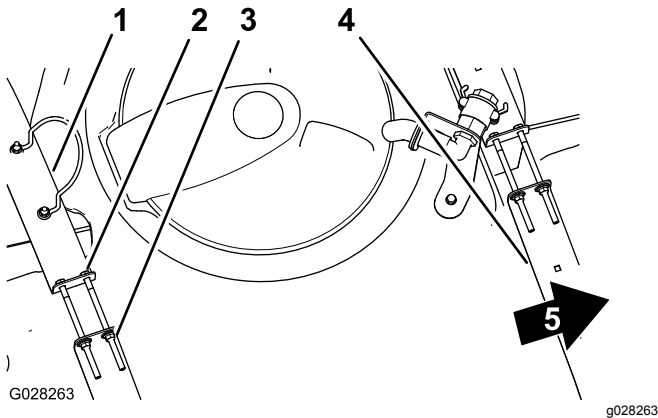

Figure 29
2. Check to see if there is any movement between the tank straps and the tank (Figure 29).
3. If the tank straps fit loose to the tank, tighten the flanged locknuts and bolts at the top of straps until the straps are flush with the surface of the tank (Figure 29).